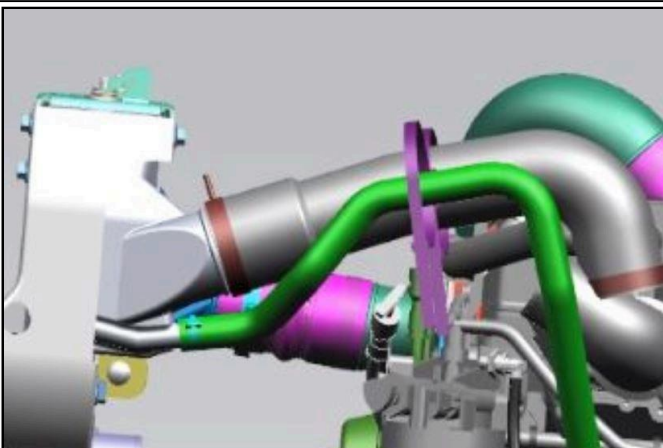

Figure 2: Side View - CAC pipe saddle & tie strap centered
2. Air Compressor Intake Hose clipping point to the saddle tie strapped on the CAC pipe shall be centered vertically on the CAC pipe and securely fastened with a tie strap. (Figure 2)